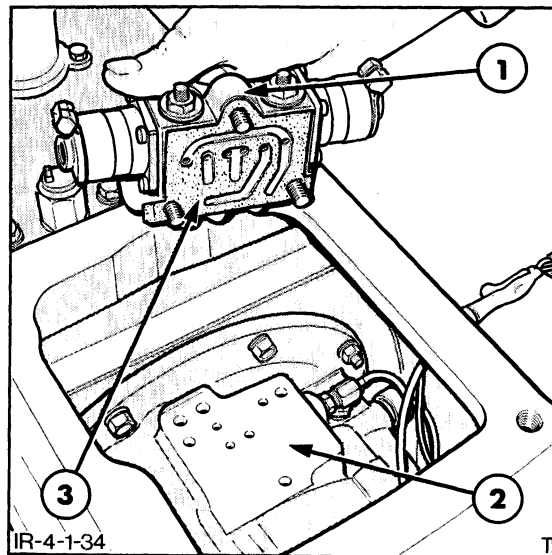

FIGURE 4-131
4. Remove the solenoid control valve securing bolts and remove the solenoid control valve from the distributor housing, Figure 4-131.